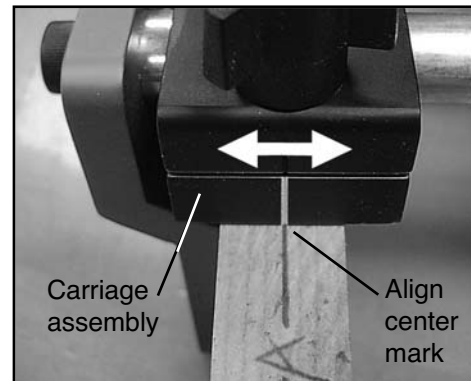

Fig. 6
5. Shift carriage assembly forward or backward to align its center mark with the center mark on the edge of the workpiece (Fig. 6) and tighten down guide block knobs.